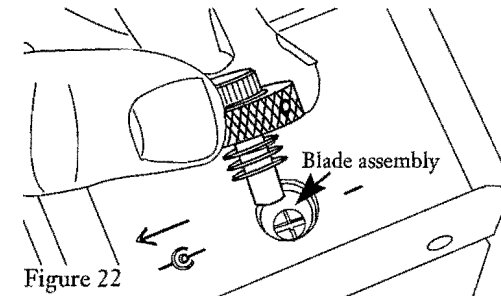

Figure 22
- a) Remove the blade height adjustment assembly to expose the top of the blade assembly (Figure 22).